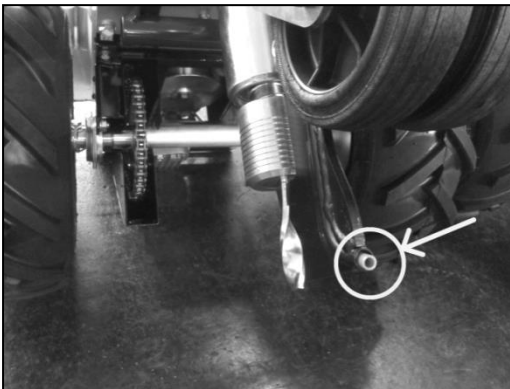

fig. 2
- Check the integrity of the exit hole of the perimeter wire from the cable guide (feed) (fig. 2). In particular, check the integrity of the flexible tube inside the cable guide. In the case of any damage, it should be replaced. Also check that there are no cuts along the contour of the hole of the cable guide, and that it does not have a sharp or jagged edge. If damaged, replace the cable guide.